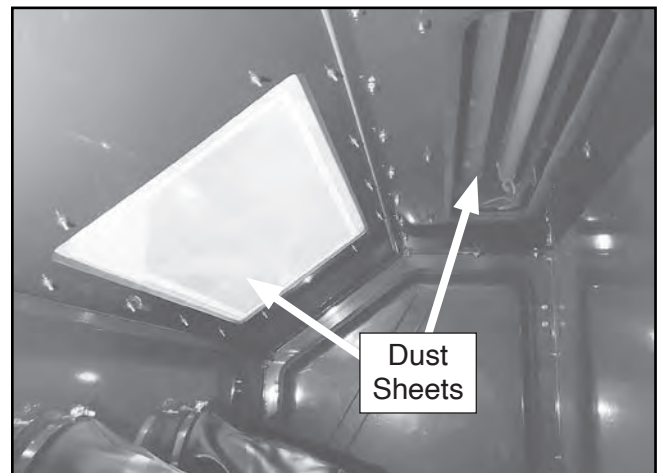

Figure 16. Dust sheets installed on viewing and lamp window.
21. Verify that plastic dust sheet is affixed to inside of cabinet viewing window and lamp window (see **Figure 16**).